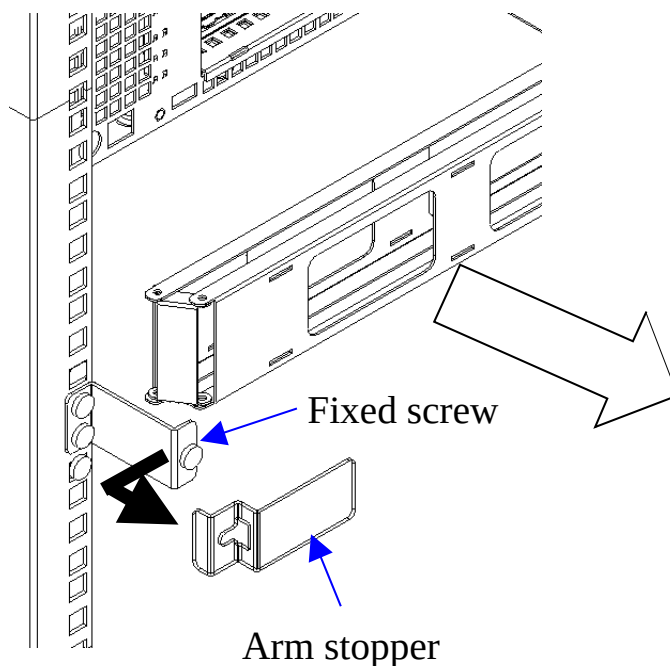

Figure 2-20. Separating the Arm Stopper Assembly
9. When installing or removing cables, loosen the fixed screw and separate the two pieces of the Arm Stopper Assembly for easy access to the cable arm assembly. See Figure 2-20.